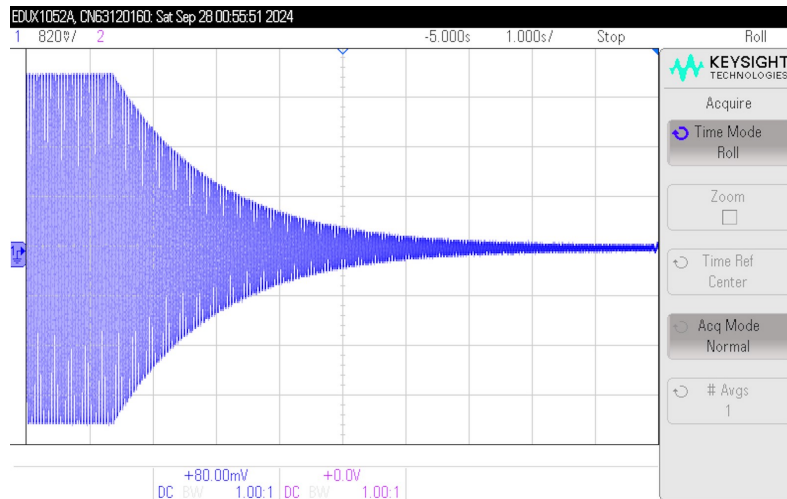

Figure 4. When the drive signal is abruptly turned off, the oscillation amplitude shows an exponential decay with time.
- Next go back to observing just ch1 on the 'scope, showing the sinusoidal *Photodiodes OUT* signal as a function of time (in *YT* mode, not *XY* mode). Set the drive frequency to  $\nu_0$ . In the *Acquire* menu, switch from *Normal* (*YT* mode) to *Roll* mode, and change the *Horizontal Scale* to 1 second per division. With these settings, you just see the sine-wave in real time moving across the oscilloscope screen. If you turn off the signal generator output, you will see the oscillations damp out with time, as illustrated in Figure 4. Reproduce this for your notebook (by pressing the *Run/Stop* button as needed). [Pro tip; you can change the oscilloscope *Vertical Scale* after you stop the motion. Also, press the *Scale* button to toggle between coarse and fine adjustments. This way you can adjust your trace to fill the screen... just so the screenshot looks nice.]